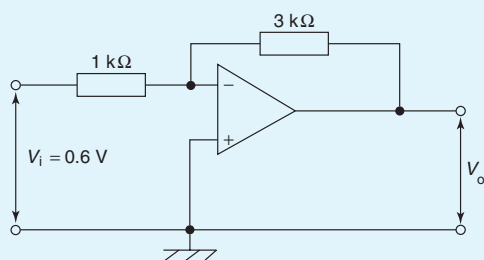

Figure 19.26
- The output voltage, V_o , in the amplifier shown in Fig. 19.26 is:
- The 3 k Ω resistor in Fig. 19.26 is replaced by one of value 0.1 M Ω . If the op amp has an input bias current of 80 nA, the output offset voltage is: